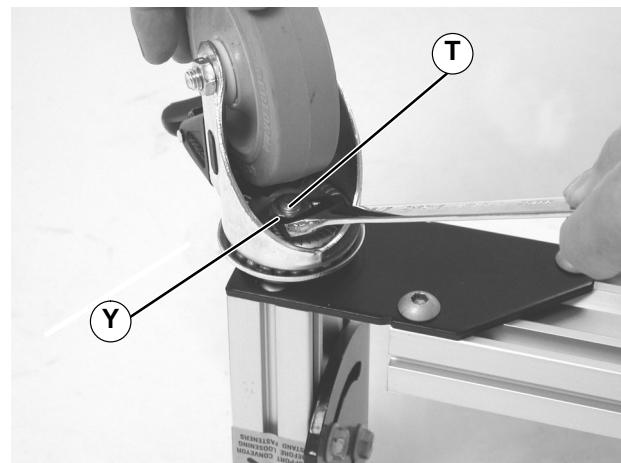

Figure 13
2. Place nut (Y of Figure 13) on bolt (V). Tighten nut to 177 in-lb (20 N-m).